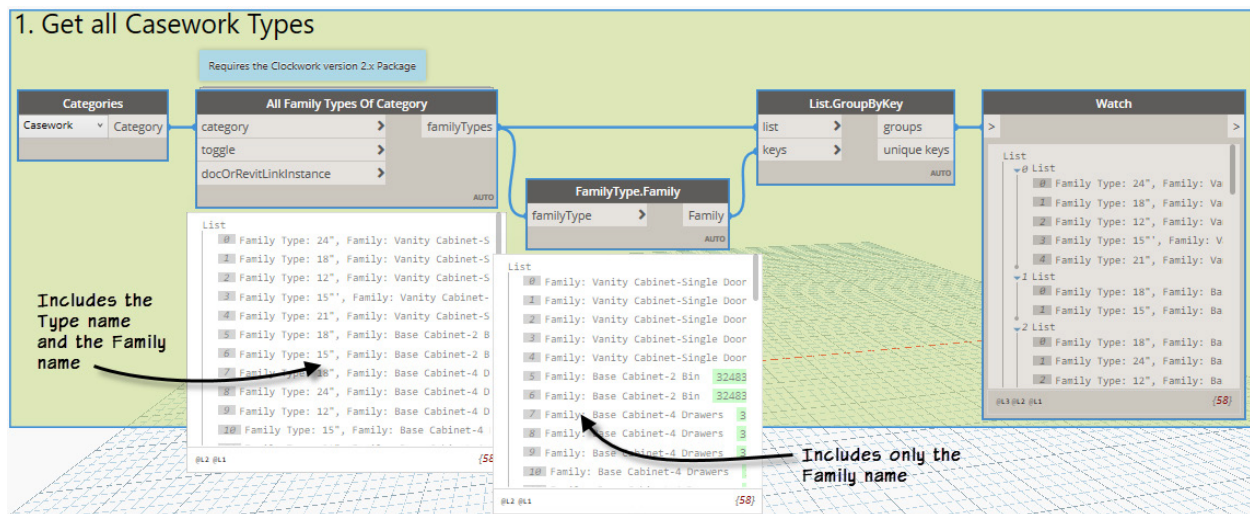

FIGURE 47
10. Select all the nodes onscreen and group them. Edit the name (see Figure 47).